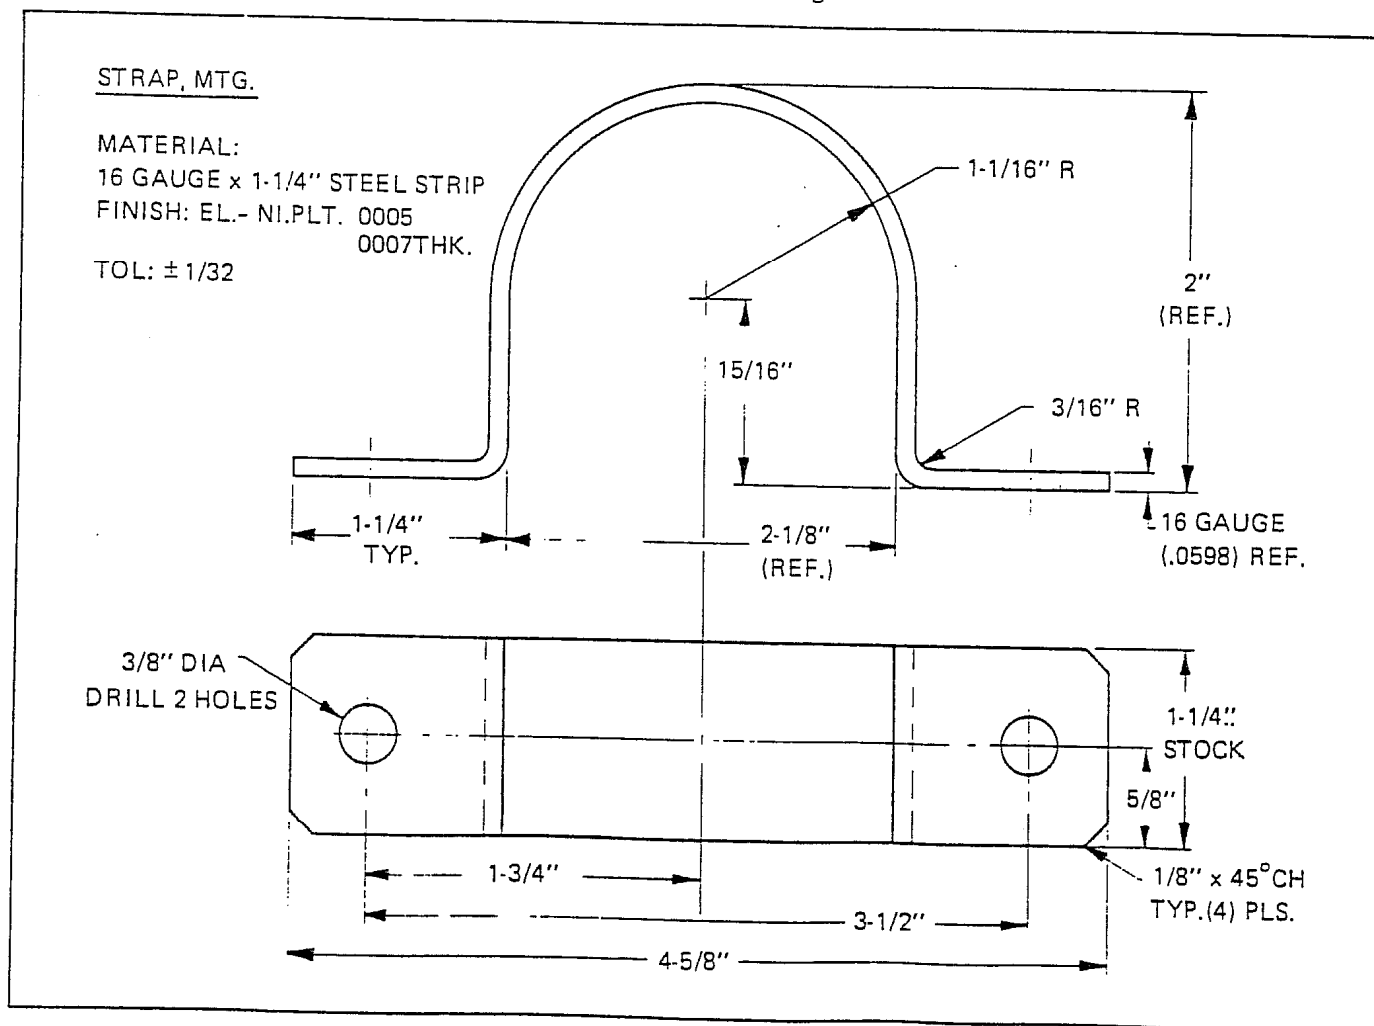
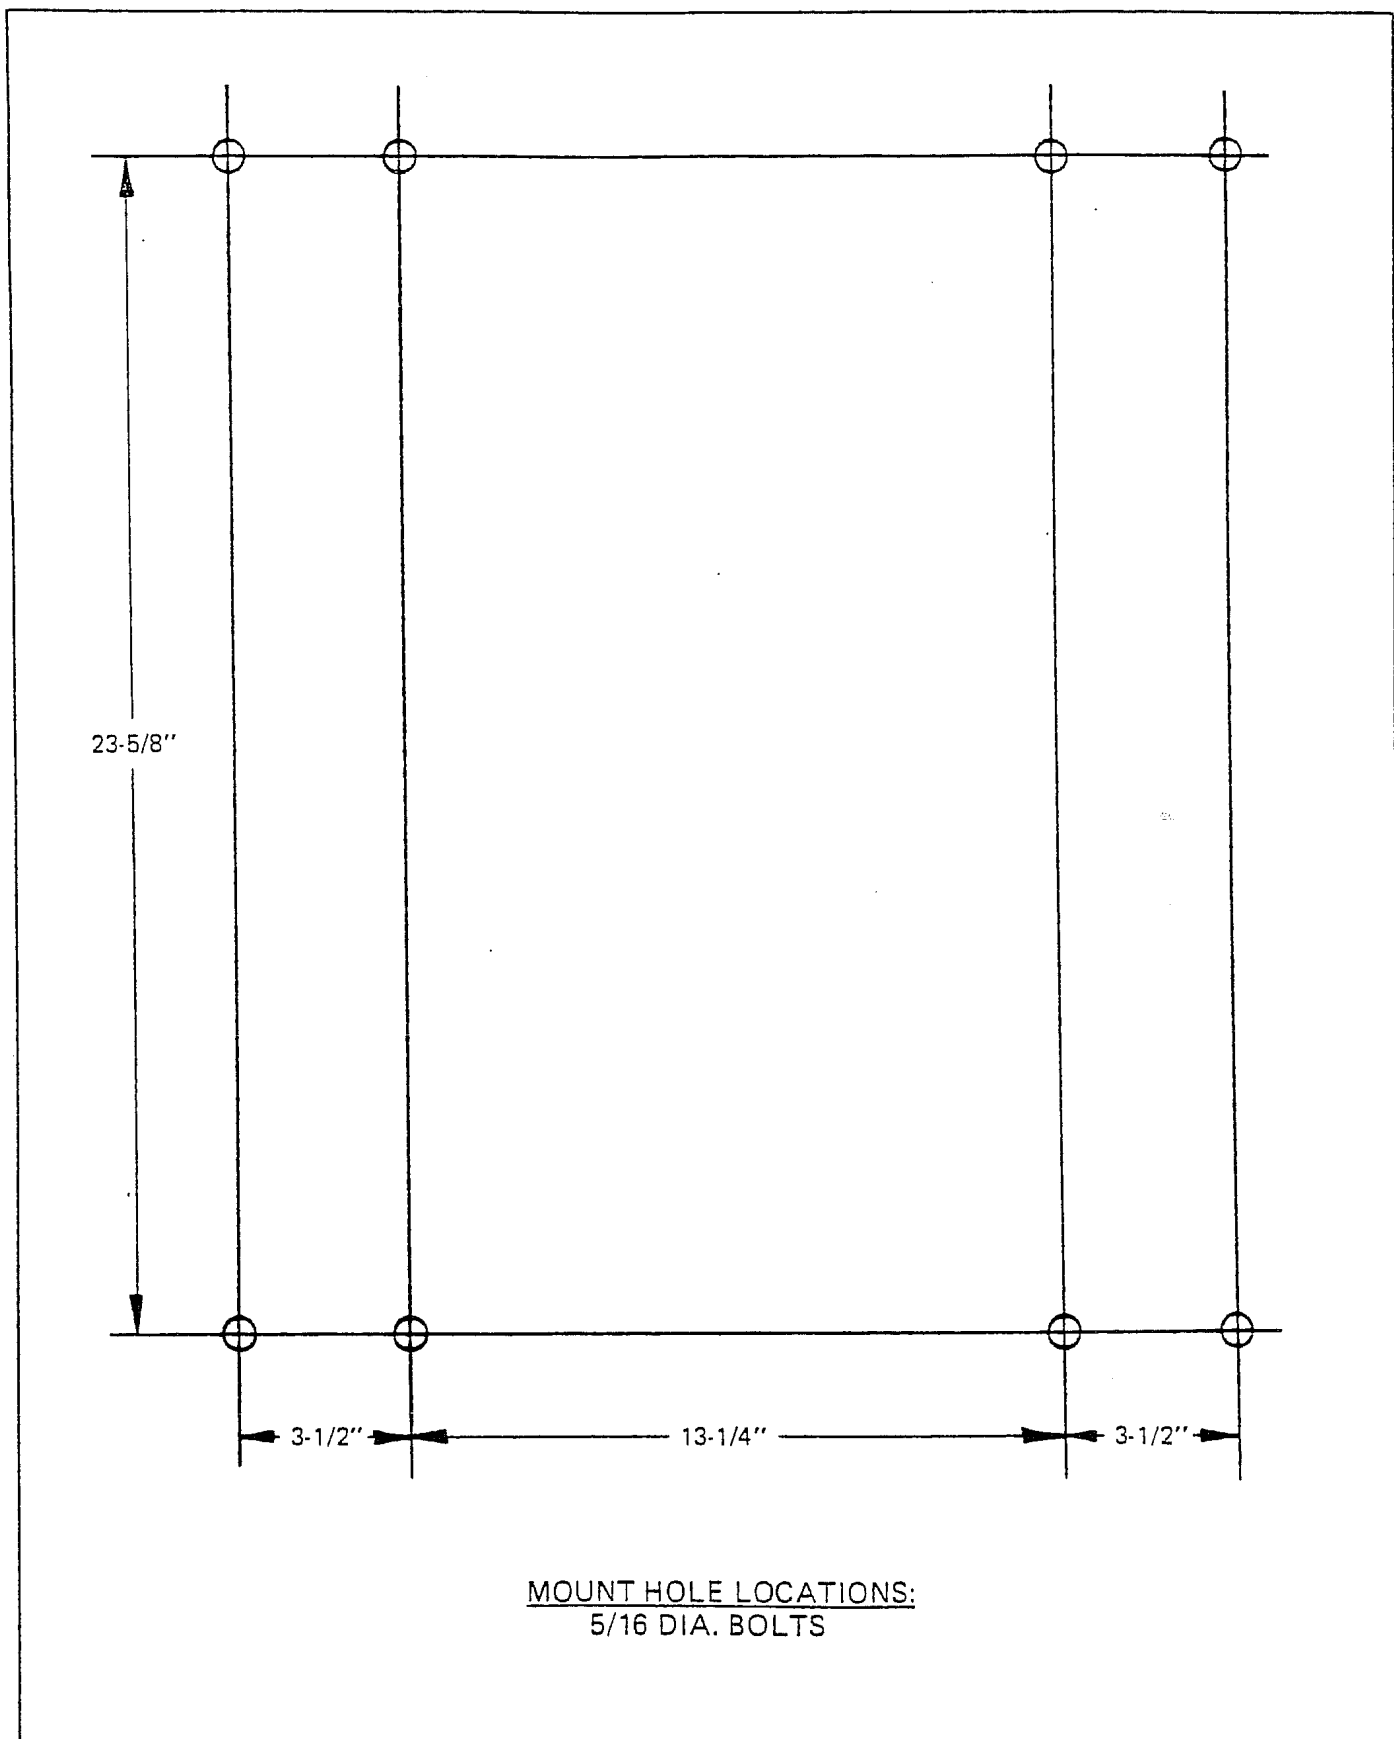

Figure 8-1 Permanent Mounting Brackets
Figure 8-2 Permanent Mounting Dimensions
8.2.1 GENERAL. The compressor system is designed for portable use. See Chapter Two, Operating Procedures, Para. 2.3 for a description of the set-up. For permanent installation, the brackets shown in Figure 8-1 can be fabricated or ordered from Rix. Figure 8-2 shows the mounting dimensions utilizing this bracket.